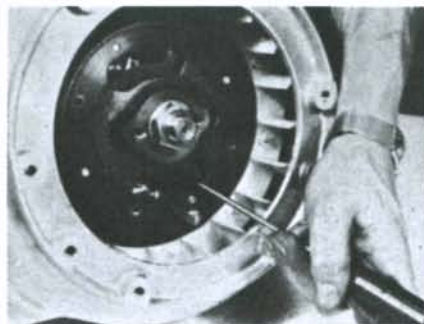

Fig. 2—Breaker cam must be held in advanced position when checking timing.
**IGNITION AND TIMING.** On models equipped with breaker points, point gap should be 0.016 in. Both sets of points must be adjusted to open exactly 180° apart. Engines are equipped with a centrifugal timing advance which provides retarded timing for starting only. Advance timing position is marked by a chipped fan blade and an alignment mark on fan housing. Hold flyweight in advanced position as shown in Fig. 2, when checking ignition timing.